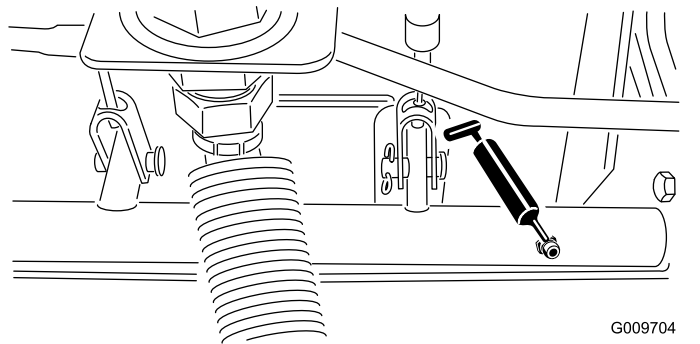

Figure 19
- Brake shaft pivot bearings (5) (Figure 19)